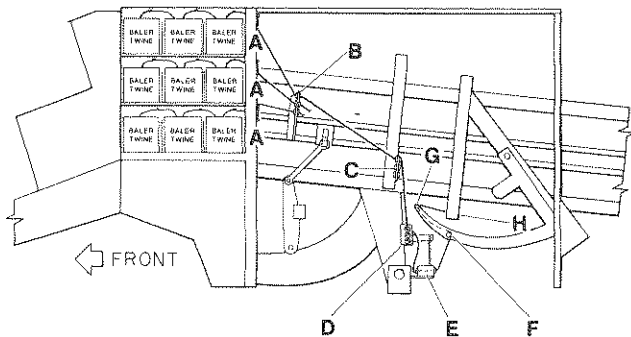

Fig. 3
2. Route twine through the three guides (located top, center, and bottom) on the rear of the twine box, see (A), **Fig. 3.**
3. Route twine through the guides near the middle of the chamber, (B); and, through the guides mounted forward of the baler tires near the bottom of the chamber, (C); then, through the guides just above the baler axle, (D); see **Fig. 3.**